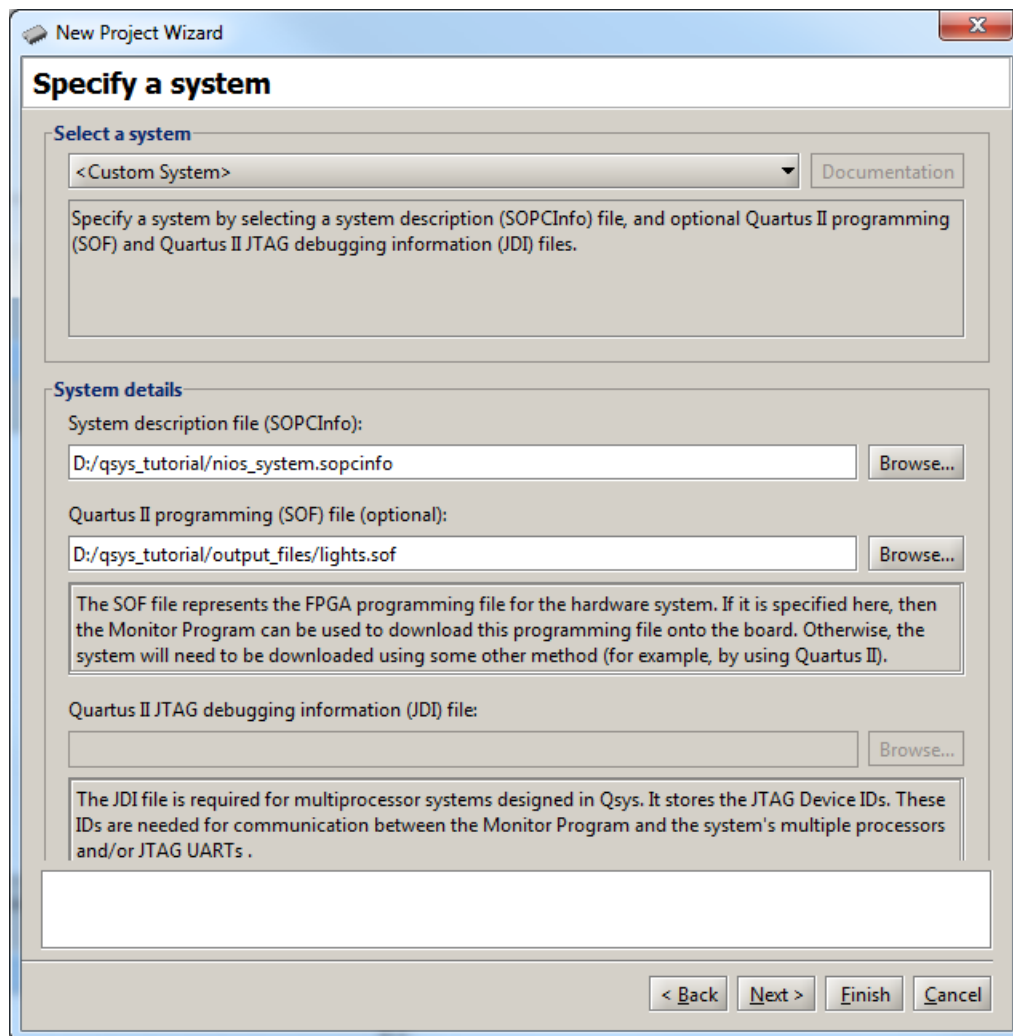

Figure 28. The System Specification window.
3. Select Nios II as the Architecture and click **Next**, leading to Figure 28.